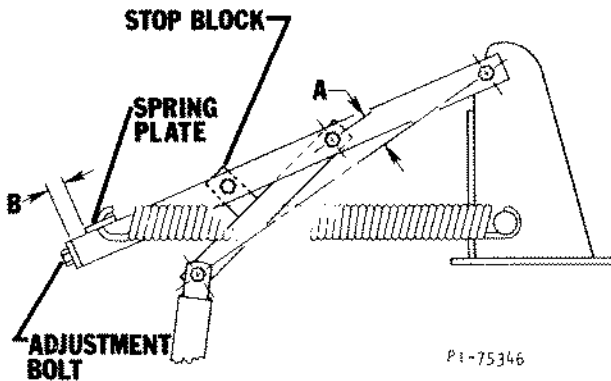

FIG. 10
The stop block maintains the linkage arms distance from center, shown as dimension (A), Fig 10